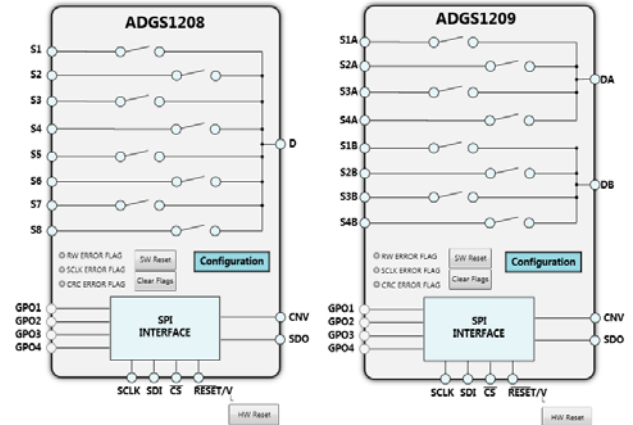

Figure 3. Evaluation Board View of the EVAL-ADGS1208SDZ/EVAL-ADGS1209SDZ
4. Double click the **ADGS1208/ADGS1209SDZ** plugin to open the evaluation board view shown in Figure 3. This figure shows the basic functionality and main functions of the EVAL-ADGS1208SDZ/EVAL-ADGS1209SDZ evaluation boards.